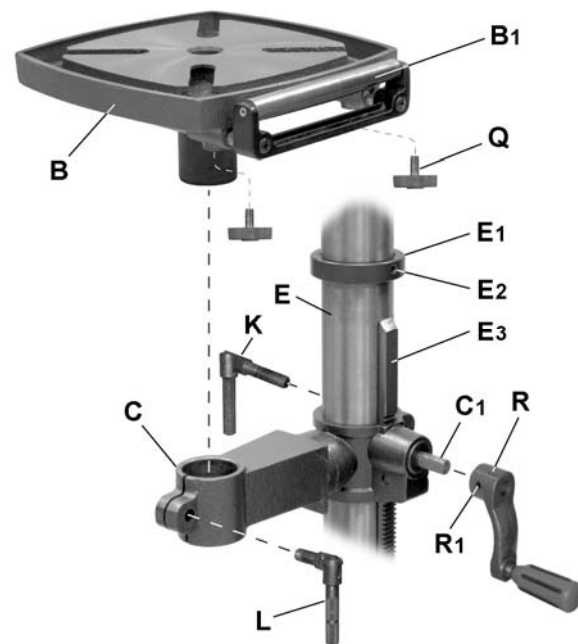

Figure 2
Referring to Figure 2:
1. Remove the wrap and take the *rack ring* (E₁) and *rack* (E₃) off the *column* (E). Note which end of the *rack* is up. It must be reinstalled later with the same side up.
2. Place the *rack* (E₃) inside the *table bracket* (C) such that the teeth of the *rack* (E₃) mesh with the pinion gear on the end of the *table crank handle shaft* (C₁).
3. Slide the *bracket assembly* (C) together with the *rack* (E₃) onto the *column* (E) as shown.
4. Place the *rack ring* (E₁) onto the *column* (E), sliding it down so it rests against the *rack* (E₃) as shown and tighten the *setscrew* (E₂) with a 3mm hex wrench (provided).
5. Place the *table* (B) onto the *table bracket* (C), positioning it as shown in Figure 2. Secure table with *table lock handle* (L).
6. Secure the table extension (B₁) with two *table extension lock knobs* (Q).